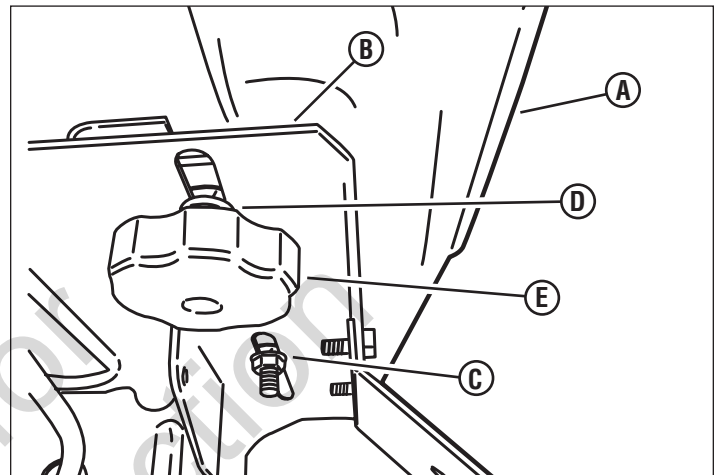
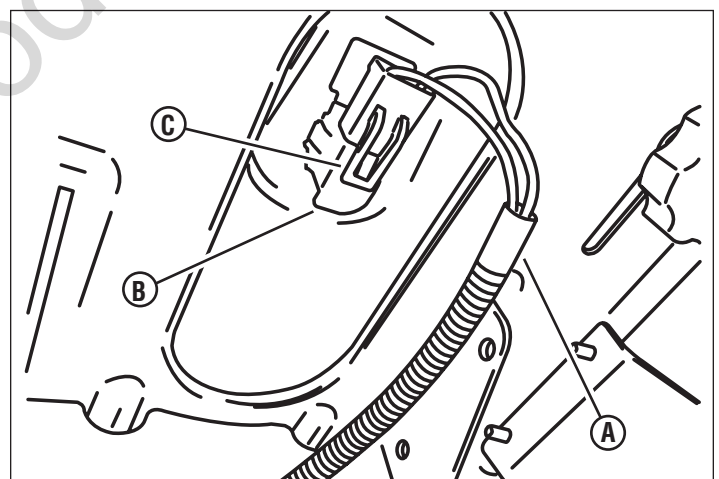

Figure 14
Figure 15
- A. Position the seat (A, Figure 14) onto the seat pedestal (B).
- B. Install two 5/16 center lock flange nuts (C) onto the rear seat bolts. Tighten the nuts securely, then loosen 1 to 1-1/2 turns to allow the seat to slide freely.
- C. Install the two seat knob spacers (D) onto the front seat bolts, followed by the two seat knobs (E).
- E. Connect the switch wiring harness (A, Figure 15) to the seat switch (B, under seat). Make sure the locking tab (C) locks into place on the switch.